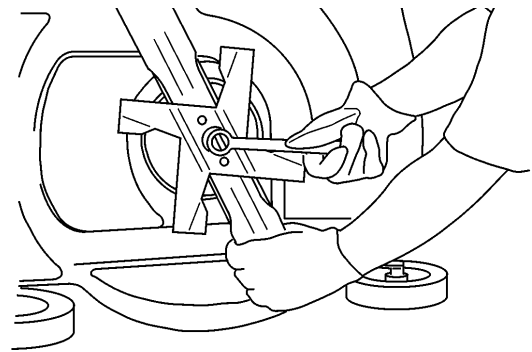

Figure 31
3. Install mulch fan into blade recess and secure with blade nut (Fig. 31).